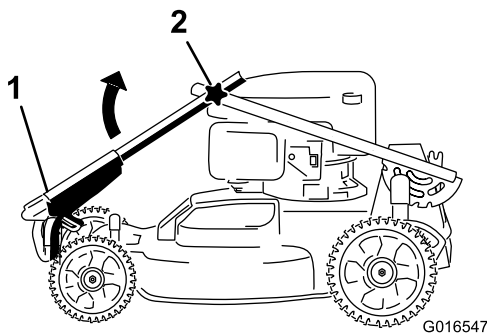
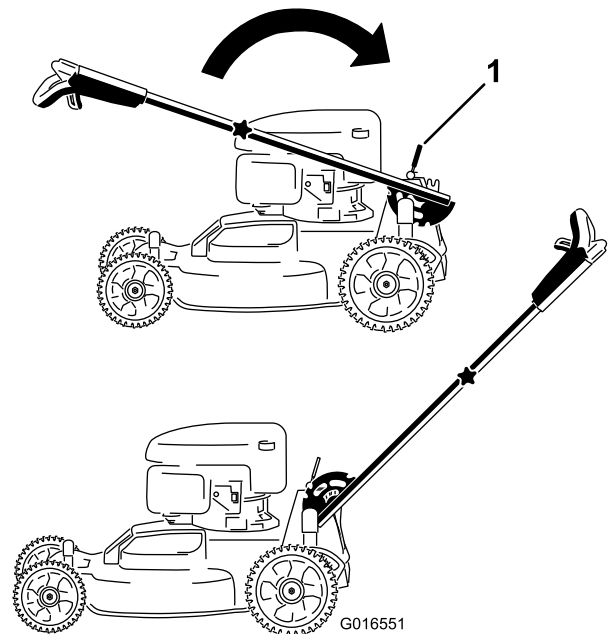

Figure 3
Figure 4
1. Rotate the upper handle so that it nests together with the lower handle (Figure 3), and tighten both knobs on the handle to lock the upper handle in place (Figure 4).
3. Pull the handle rearward and lock it into position (Figure 4).
2. Release the handle-lock lever (Figure 4).